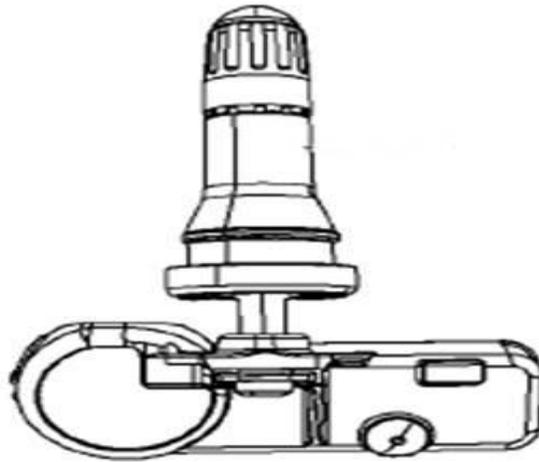

Fig. 1 Rubber Valve Stem
1. Inspect all of the wheel valve stems, are any of the valve stems, rubber? (Fig. 1).